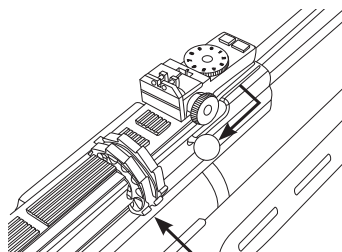

Fig. 10
4. Place the loaded magazine in its place and unlock magazine release bolt by pulling it downwards so it locks back to its place under spring load. (Fig.10). If necessary rotate the magazine counter-clockwise until its movement is arrested by the magazine stop.
8. To reload pistol, pull the cocking lever fully and close so the next pellet is indexed with the barrel. Then repeat above items 6 & 7.